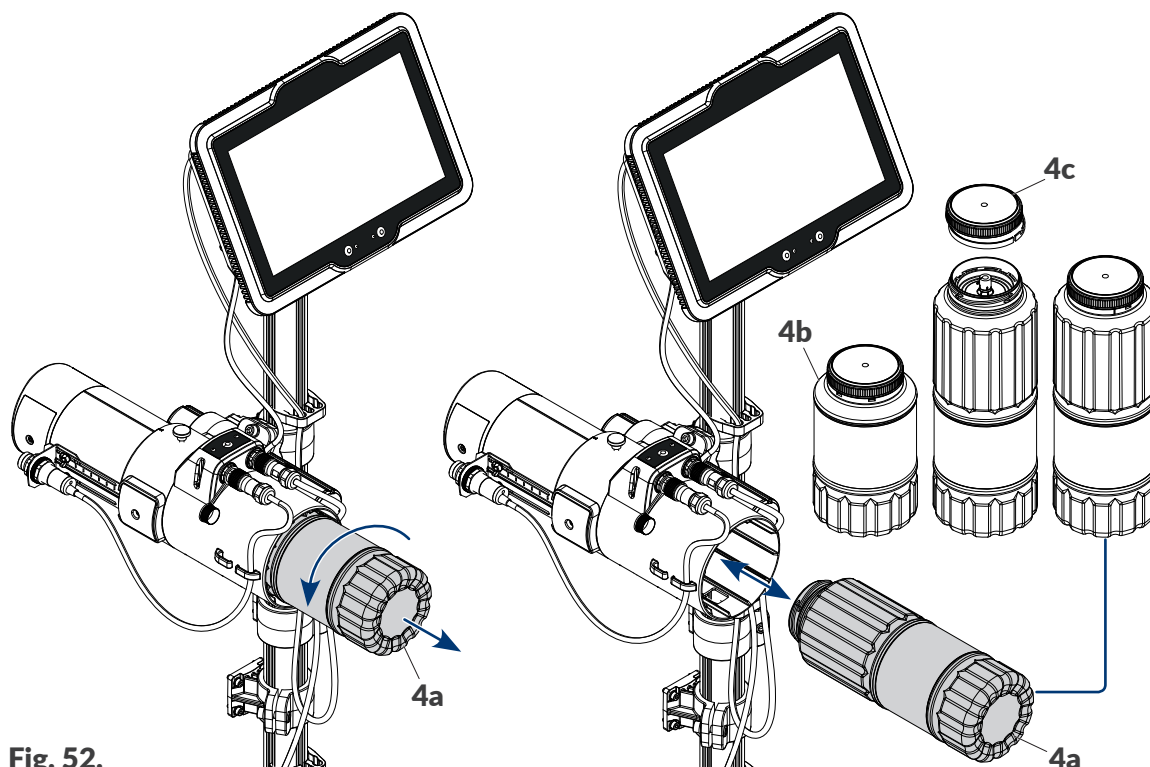

Fig. 52.
2. Screw out empty bottle **4a** (see Fig. 52).